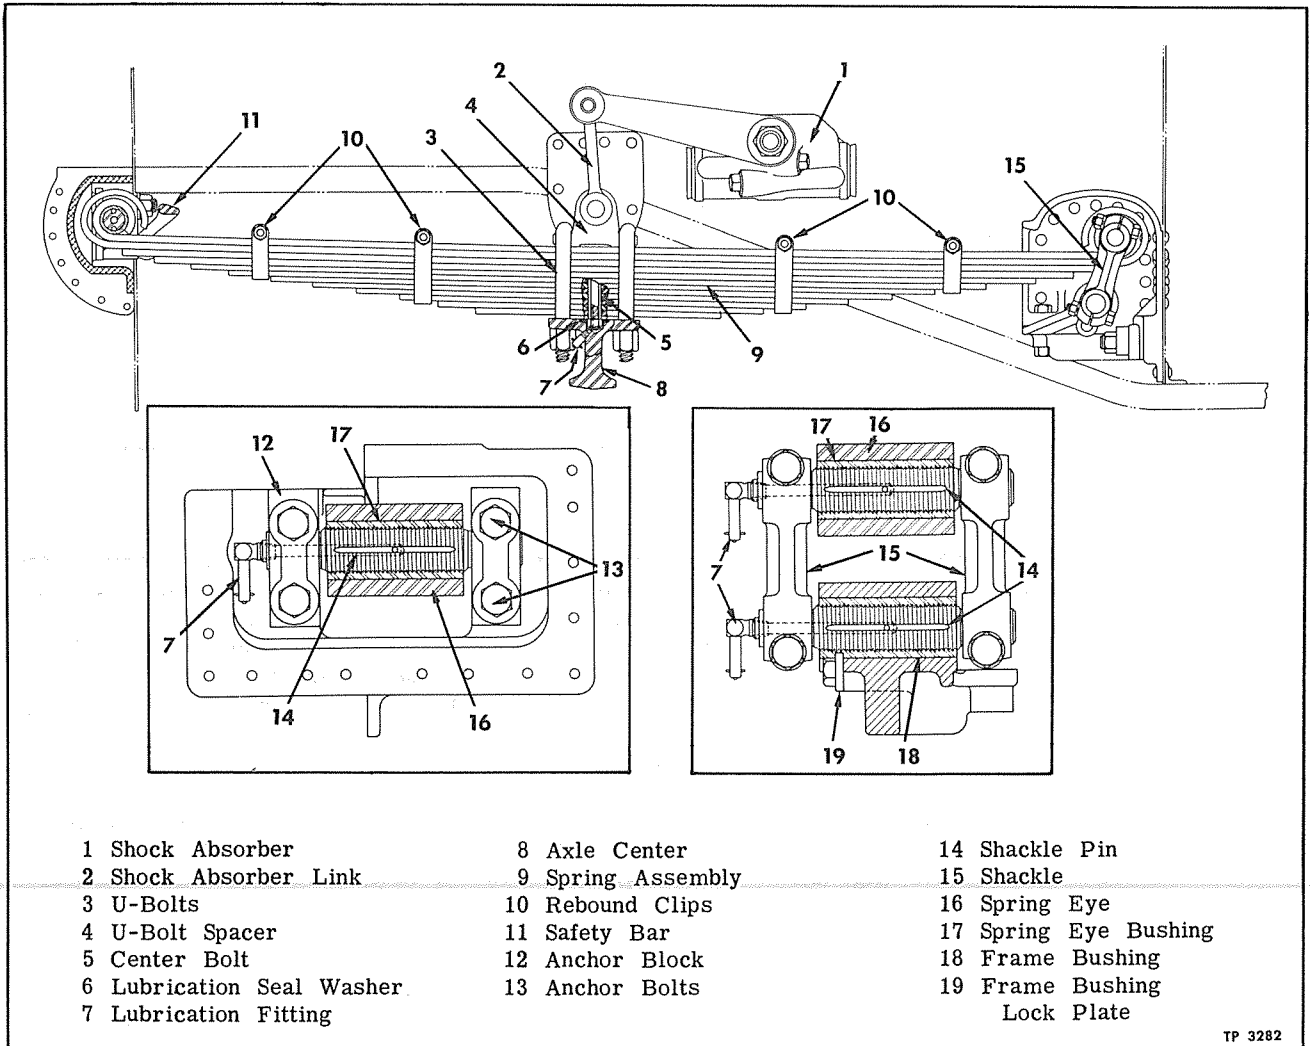
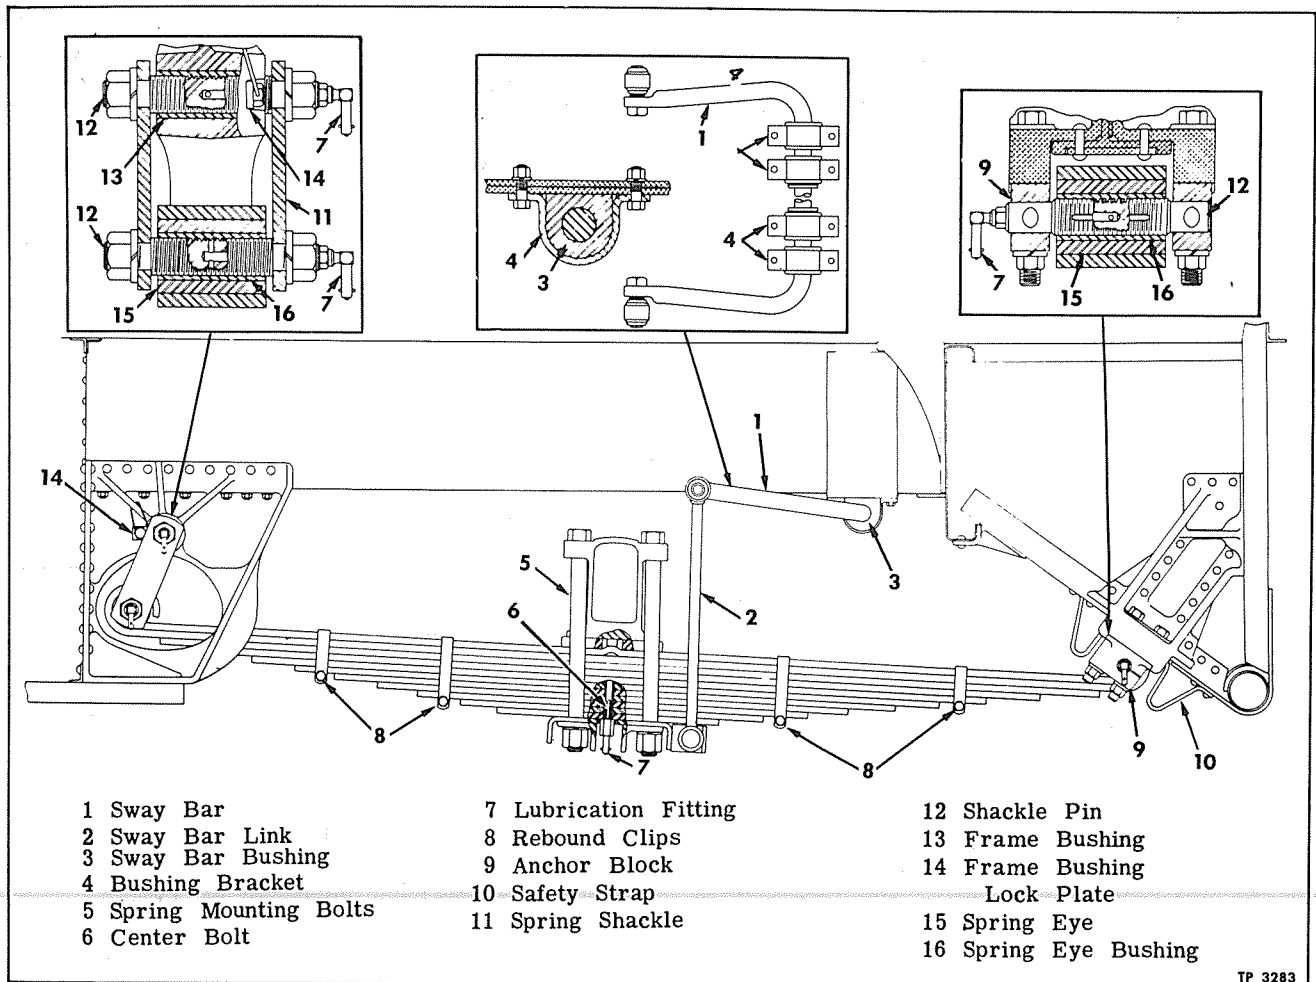

Figure 1—Front Spring Mounting and Shock Absorber Installation
Figure 2—Rear Spring Mounting and Sway Bar Installation
Vehicle chassis and body are supported by semi-elliptic type springs. Front springs are mounted on I-beam of front axles (fig. 1), while rear springs are suspended from rear axle housing (fig. 2). Each front spring assembly is attached to front axle with two U-bolts. Rear springs are bolted to rear axle housing with four straight bolts. Front ends of front springs are held in stationary brackets; rear ends are shackled to allow longitudinal movement (fig. 1). Rear springs are shackled at forward ends, while rear ends are held in stationary brackets (fig. 2).
On front springs, lubrication fitting is installed in a drilled opening in front axle, which leads to center bolt, as shown in figure 1. On rear springs, lubrication fitting is installed in an adapter threaded onto center bolt (fig. 2). Center bolts are grooved to permit passage of lubricant to center portion of spring leaves.
front and rear springs. Pins are drilled and equipped with pressure gun lubrication fittings, (figs. 1 and 2), to provide facilities for lubricating spring eye bushings and frame bushings. **NOTE:** Upper shackle pin bushing, on left rear spring, is lubricated through tube mounted in shackle bracket. Shackle pins should be lubricated periodically as directed in Lubrication (Sec. 13, of this manual).
5. After placing support under spring assembly, to keep spring from dropping on floor, complete removal of spring assembly to axle mounting bolts; thereby disconnecting spring from axle and completing removal of spring. Remove and discard lubrication seal washer (6, fig. 1).
1. Install new lubrication seal washer (6, fig. 1) in recess in axle center, position spring on I-beam of front axle correctly, place U-bolt spacer on spring, then install U-bolts, tightening nuts securely.
1. Install spring eye bushings, use arbor press and suitable bushing driver. Make sure bushing is aligned with hole in spring eye before attempting to press bushing into place. NOTE: Ends of bushings should be flush with sides of spring eyes as shown in figures 1 and 2.
2. Apply a coating of lubricant specified in Lubrication (Sec.13, of this manual) to spring leaves, stack spring leaves in correct order, then align the center bolt hole. Place assembly in arbor press, or use two C-clamps to compress leaves, then install center bolt. Center bolt should be installed as shown in figures 1 and 2.
4. Dip shackle pins in chassis lubricant then thread pins into spring eye bushings and frame bushing with holes for lubrication fittings positioned as shown in figures 1 and 2. NOTE: Ends of shackle pins should protrude an equal distance on both ends of spring eye bushings.
brackets with four U-shaped clips as shown in figure 2. Arms of sway bar extend toward front of vehicle and are connected to spring retainer plate assembly with rubber bushed link arms.